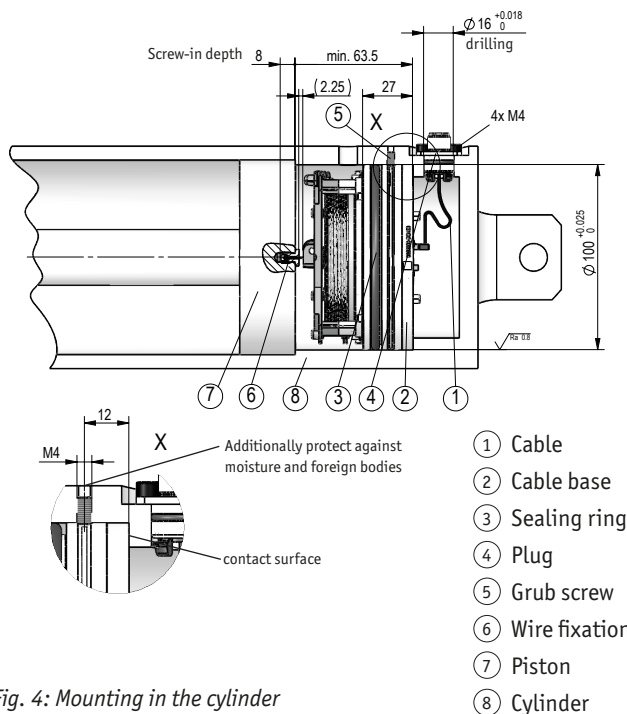

Fig. 4: Mounting in the cylinder
Mounting (Fig. 4):
3. Pull the plug insert ④ out through the plug outlet on the cylinder base. Join the plug insert with the flange enclosures incl. greased O-ring and screw it 4x at the intended position.
4. The axial fixing can be done with a securing bolt screw ⑤ as shown in Fig. 4. Tighten the threaded pin slightly (approx. 0.5Nm) and then turn back again approx. 0.5 turns. The threaded pin must be sealed depending on the ambient conditions.
For detailed information on installation refer to chapter 4.1 (Fig. 4)